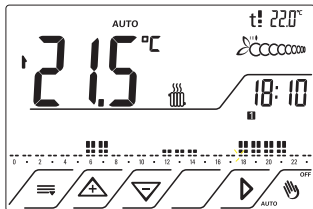
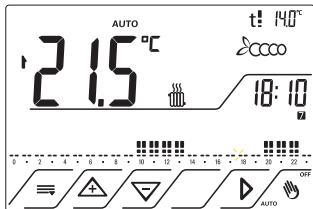

Fig.5
Fig.6
- Heating program from Monday to Friday fig.5 and from Saturday to Sunday fig.6.